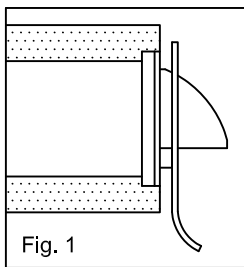

Fig. 1
- \* Screw both side together using the fitting bolts top and bottom. (FIG 1)
- \* Position the strike plate on the door so that it fits against the flat of the latchbolt,with deadlatch plunger depressed(Fig. 1).